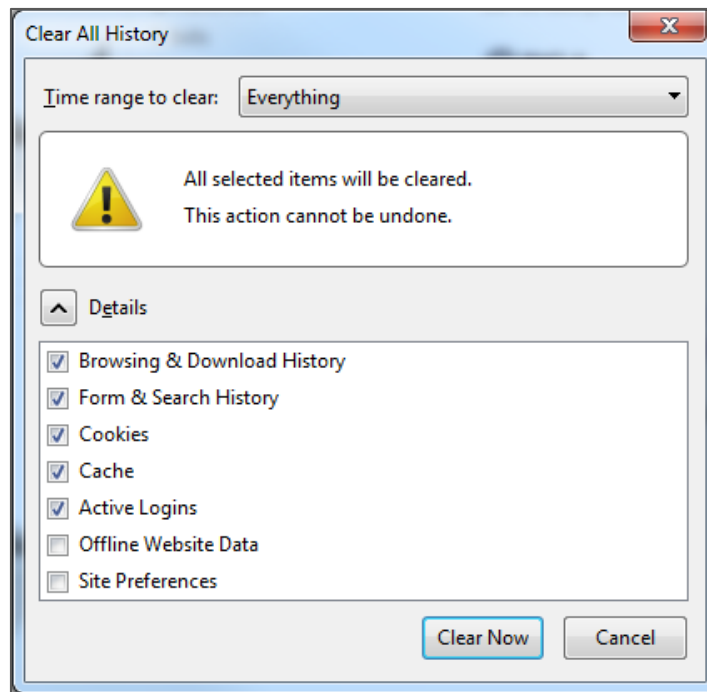

Figure 17: Clear All History popup box
- c) Select **Clear Recent History** from menu. **Clear All History** popup box displays (Figure 17).